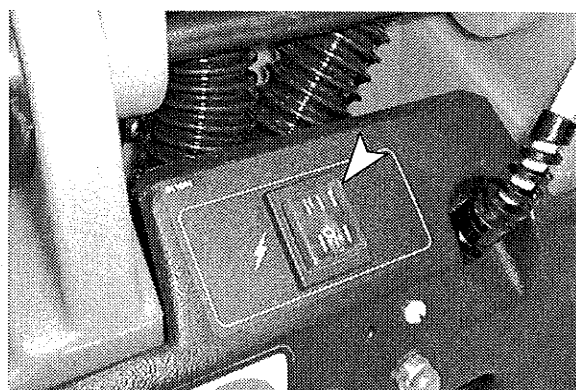

FIG. 9
2. Turn main power switch on (Figure 9).